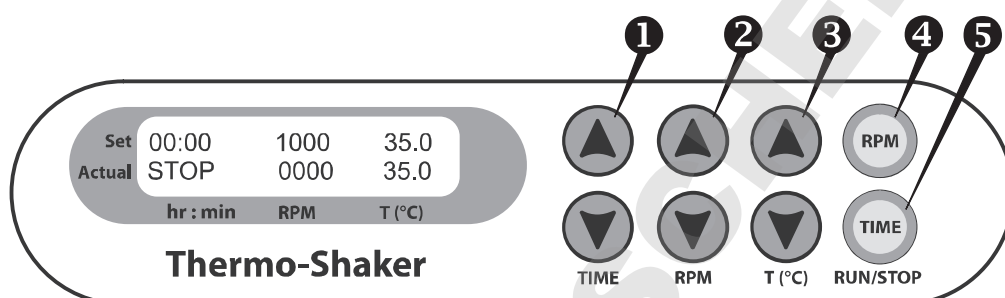

Fig. 1 Control panel
- 4.3 Using the ▲ and ▼ keys (Fig. 1/①) set the required working time interval in hours and minutes (increment - 1 min). Pressing the key for more than 3 s will increase the increment.
- 4.4 Using the ▲ and ▼ keys (Fig. 1/②) set the required speed (increment 10 RPM). Pressing the key for more than 3 s will increase the increment.
- 4.5 Using the ▲ and ▼ keys (Fig. 1/③) set the necessary temperature (increment 0.1°C). Pressing the key for more than 3 s will increase the increment.
4.7 Press the **RPM-RUN/STOP** key (Fig. 1/④). The platform will start rotating and the timer indicator will start counting up the time interval (with 1 min precision).
4.10 The timer can be reset during operation if required. Press the **TIME-RUN/STOP** key once (Fig. 1/⑤) to stop the timer. Press the **TIME-RUN/STOP** key again to restart the timer.
**Caution!** At the end of the set time period the platform movement is stopped automatically, but the heating can be stopped only by reducing the temperature using the  $\nabla T(^{\circ}C)$  key (Fig. 1/⑥ lower key) till the OFF sign appears in the upper part of the display.
Following error codes are show in the lower right corner of the display (fig. 1), accompanied by a sound signal every 8 s. Press **RPM RUN/STOP** key to turn off the signal. Please contact our Service Department in the UK or, in other countries, our distributor.